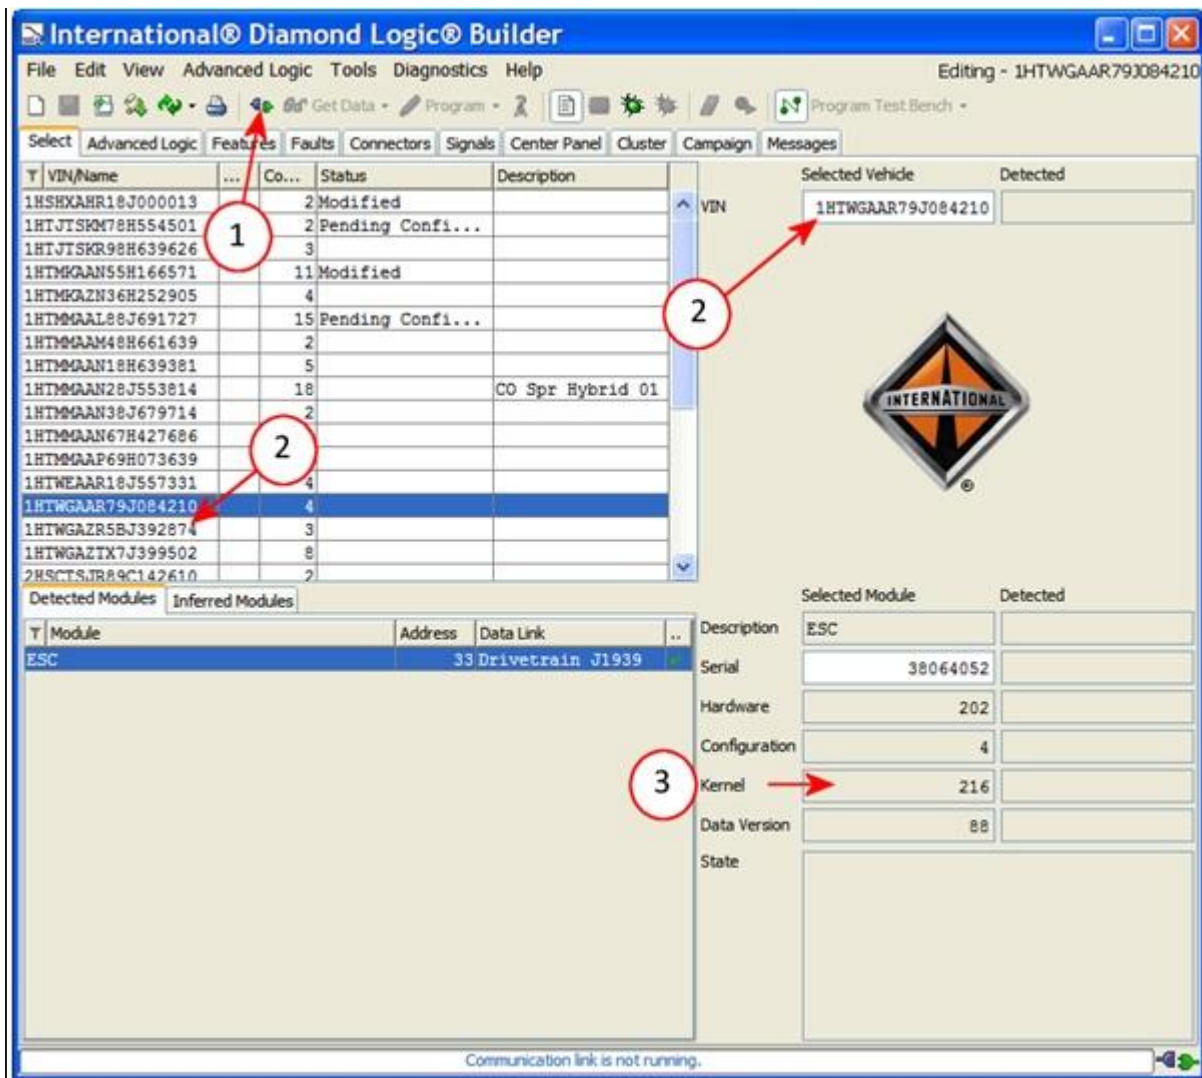

Figure 1 - Connecting Vehicle with DLB
4. Open and connect Diamond Logic Builder (DLB) Figure 1